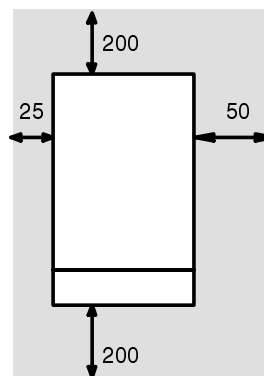

Fig. 6.1 (all dimensions in mm)
- To allow maintenance procedures it is necessary to leave the minimum gaps indicated in Fig. 6.1.